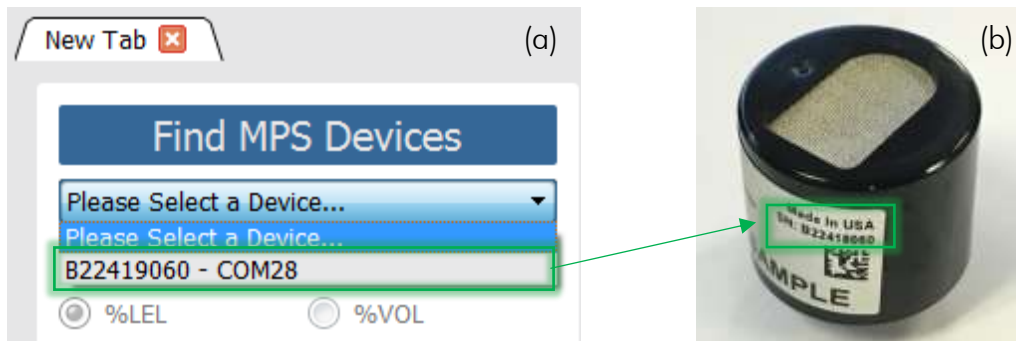

Figure 4 – (a) Selecting the active MPS™ Flammable Gas Sensor. (b) Device serial number
6. Click the “Find MPS Devices” button and select the MPS Flammable Gas Sensor connected to the computer (Figure 4). The sensor name is found on the sensor serial number in the form: B22419060.